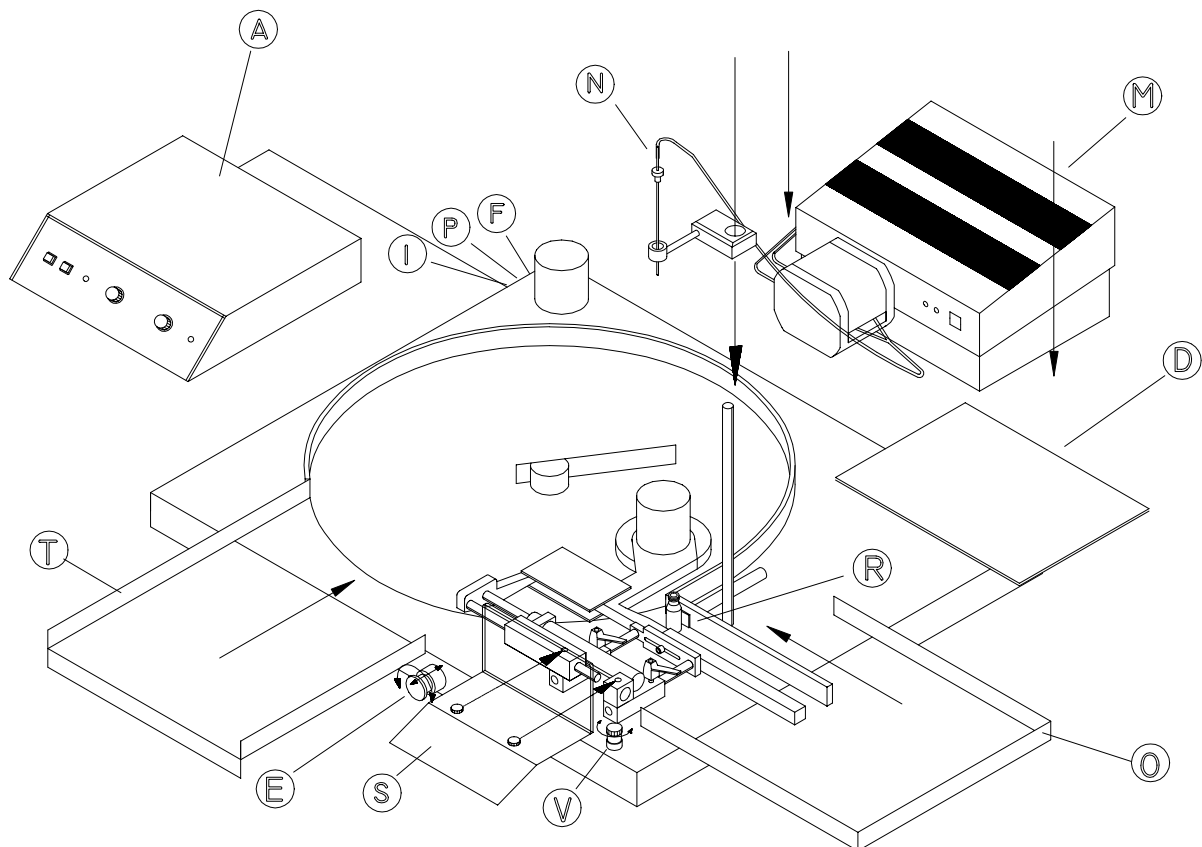

Fig. 1
The mains switch and pneumatic emergency stop (E in fig. 1) is used for emergency stopping.
The cover (S in Fig. 1) should be mounted when operating the FlexFeed 20.
Remove the cover plate (S) Fig. 1 via the two black finger screws.
Attach the inlet tray (T) Fig. 1 by Allen screws in the four holes in the frame.
Attach the outlet tray (O) Fig. 1 by Allen screws in the four holes in the frame.
If using a dumping needle, the air supply for this can be taken from the outlet (D) in fig. 1.
Place a bottle in the filling positioning piece (H) and loosen the Allen screw on the bottle feeder (P). Push the bottle feeder piston rod all the way in and adjust the bottle feeder so that it is at a distance of about 1 mm from the bottle in the filling area (H). An external throttle valve (V in fig. 1) controls the speed of bottle feeder (P).
Put the cover plate back in place, make sure the bottle feeder is still all the way to left and then reactivate the compressed air by releasing the emergency stop (E in Fig. 1).